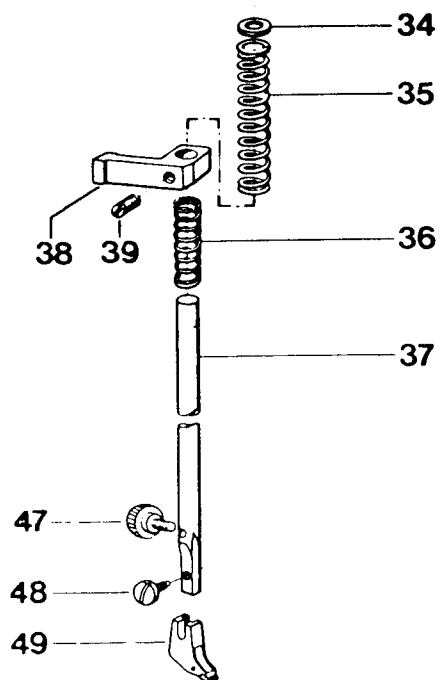

Fig. 1
Fig. 1 illustrates how a correctly wound bobbin should look. If the bobbin winds unevenly, adjustment can be made in the following way. First remove the covering until the screw which holds the thread guide in place is accessible. (Note that the screw underneath, which connects the belt guard to the rear cover, should remain untouched). If the bobbin winding looks like example 2, turn the screw clockwise until winding is even. If it looks like example 3, check that the bobbin is properly pressed onto the shaft. If this is in order, turn the screw counterclockwise until winding is even.
5. Remove the presser foot holder mounting screw Fig. 1 (48) and remove the presser foot ankle Fig. 1 (49).
6. Loosen the screw Fig. 1 (39) in the presser bar guide.
Before removing the presser bar observe the position of the presser bar components Fig. 1 (34, 35, 38, 36).
7. Slide the presser bar up, and at the same time, remove the small lower spring Fig. 1 (36), presser bar guide Fig. 1 (38), presser bar tension spring Fig. 1 (35), and the nylon washer Fig. 1 (34).
8. Install the presser bar. Start the bar through the casting and put the washer and tension spring on first. Then the presser bar guide and last the small lower spring. Lightly secure the screw Fig. 1 (39) on the presser bar guide.